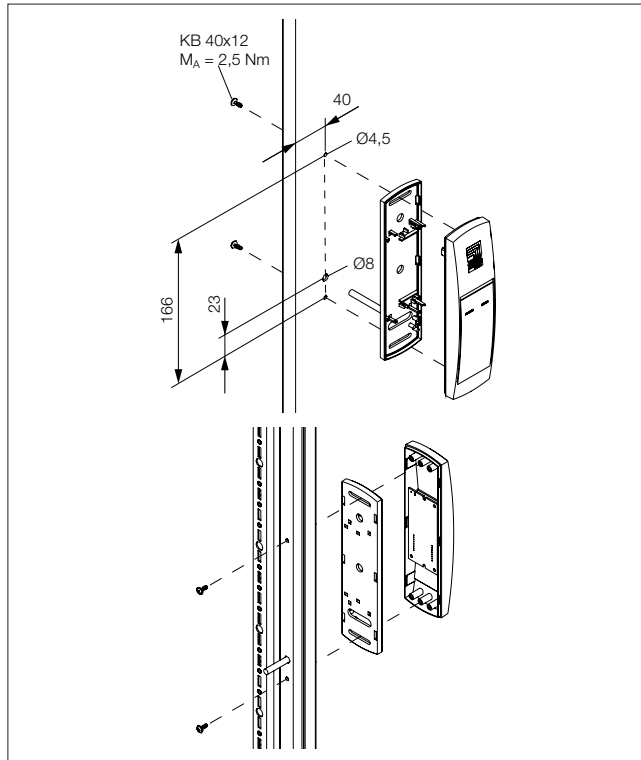

Fig. 2: VX and VX IT sheet steel door installation
- Drill suitably sized holes at the required part of the frame of the VX sheet steel door (Fig. 2).